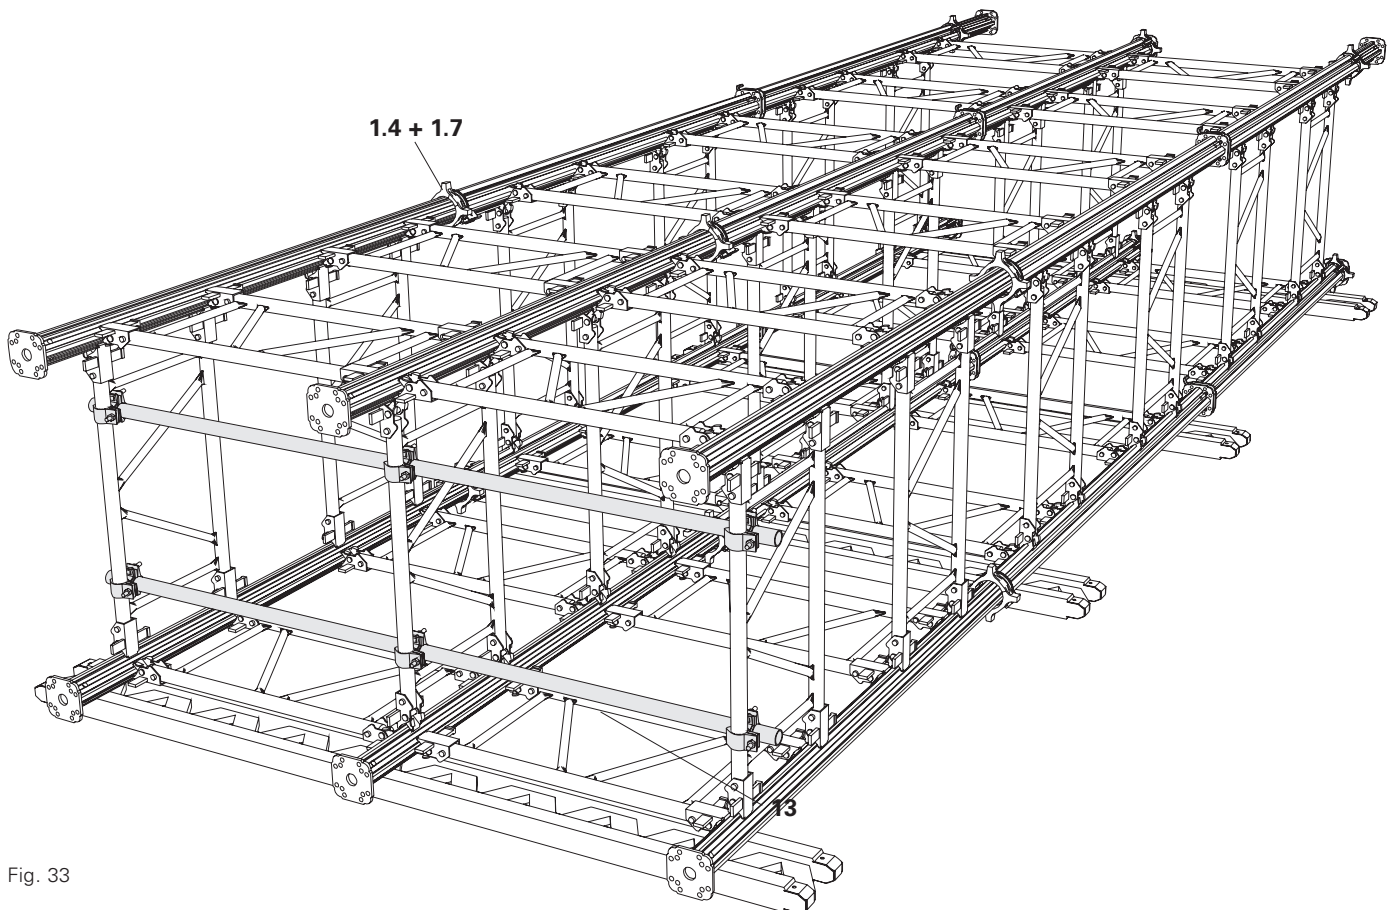

Fig. 33
- For the lifting unit, scaffold tubes (13) are to be mounted under the frame tubes of the topmost frame. (Fig. 33)